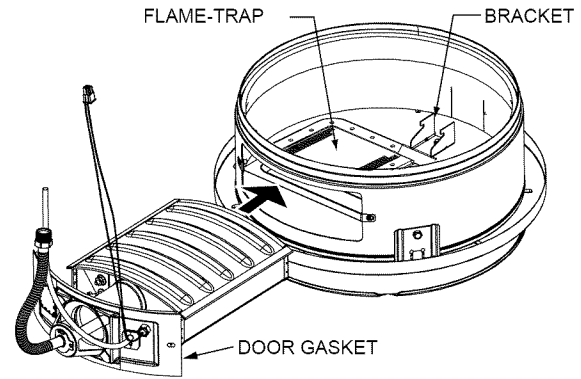

FIGURE 30.
- Use a vacuum cleaner/shop vac to remove all loose debris in the combustion chamber (Figure 30). Use compressed air to clear any dust or debris that may have accumulated in the flame trap (flame arrestor).
3. Insert the burner assembly into the burner compartment, making sure that the burner assembly sits firmly against the burner bracket inside the combustion chamber (Figure 30).